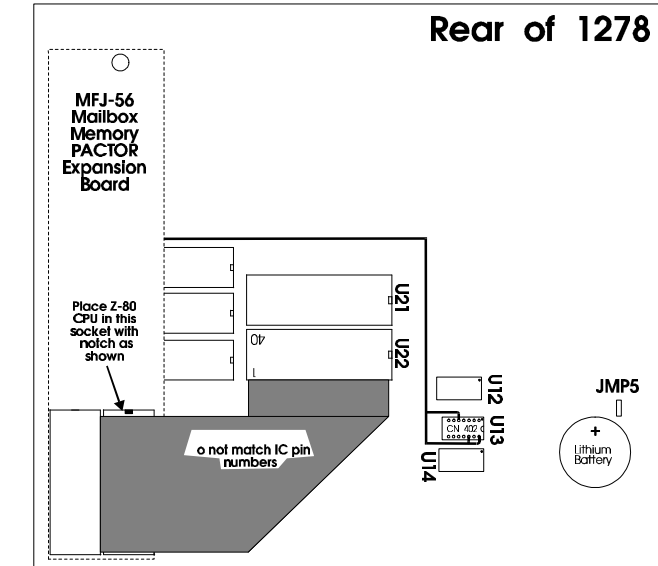

Figure 1 Front of TNC 2 / 1278
8. Please refer to Figure 1 when performing this step. Using a small phillips screwdriver remove the PC hold-down screw in the left rear corner of the TNC mother board, this is referred to as HOLE "A". Do not let this screw out of your sight, you'll be using it here shortly.
9. Take the 1/2" hex spacer supplied and install it in HOLE A, as noted in Figure 1 in this instruction. This is the same place where you removed the screw in Step #8. This is an aluminum spacer DO NOT OVER TIGHTEN it, you will STRIP the THREADS.
10. Now with the memory board in one hand, plug the free end of the 40-pin ribbon cable into the IC socket labeled U22 (please refer to Figure 1; this is the same one which you removed the Z80 CPU from earlier in this procedure) on the mother board. Be sure to orient the blue connector so that pin 40 and 1 on the blue connector are oriented to the right side of the IC socket, (with the front panel of the TNC facing toward you). You will need to twist the cable slightly. Ensure that you leave the CN402 pigtail free and clear, do not let it become pinched or caught up underneath anything.
14. Take note of the location of the NOTCH on CN402. Now plug CN402 into the IC socket labeled U13 (socket which the 74HC4066 was removed earlier) on the TNC mother board. Please refer to either Figure 1. Plug it in so the NOTCH is pointing toward the lithium battery. Make sure it is firmly in place!